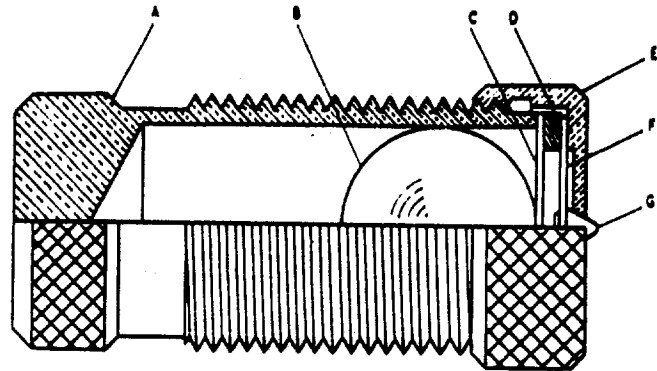

Fig. 5 Non-bounce Contact Assembly
Each stationary contact, Fig. 5 is mounted on a flat spiral spring (F) backed up by a thin diaphragm (C). These are both mounted in a slightly inclined tube (A). A stainless steel ball (B) is placed in the tube before the diaphragm is assembled. To change the stationary contact brush, remove the contact barrel and sleeve as a complete unit after loosening the screw at the front of the contact block. Unscrew the cap (E). The contact brush may then be removed.